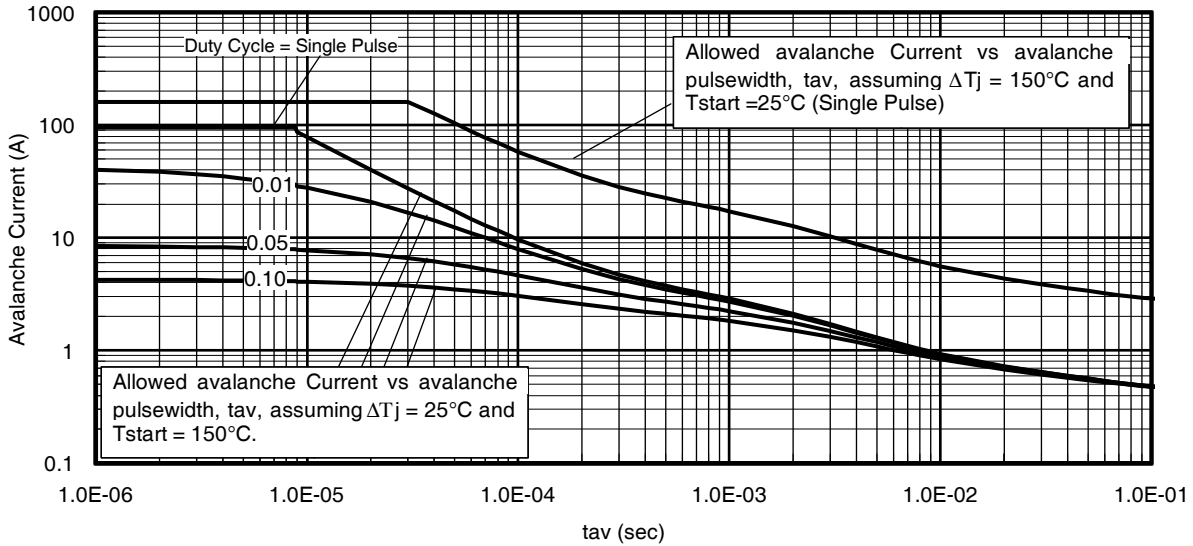

Fig 15. Typical Avalanche Current Vs.Pulsewidth
**Notes on Repetitive Avalanche Curves , Figures 15, 16:
7. ΔT = Allowable rise in junction temperature, not to exceed $T_{j\text{max}}$ (assumed as 25°C in Figure 15, 16).